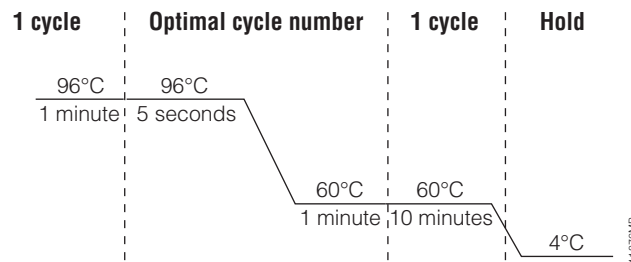

Figure 2. Thermal cycling protocol for the GeneAmp® PCR System 9700, Veriti® 96-Well Thermal Cycler and ProFlex® PCR System.
2. Select and run the recommended protocol, provided below and in Figure 2. The total cycling time is approximately 1 hour.